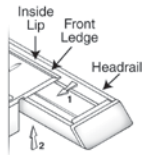

Figure 2
- Tilt and slip the inside lip of the headrail over the installation brackets' front ledges as shown (Fig. 2).